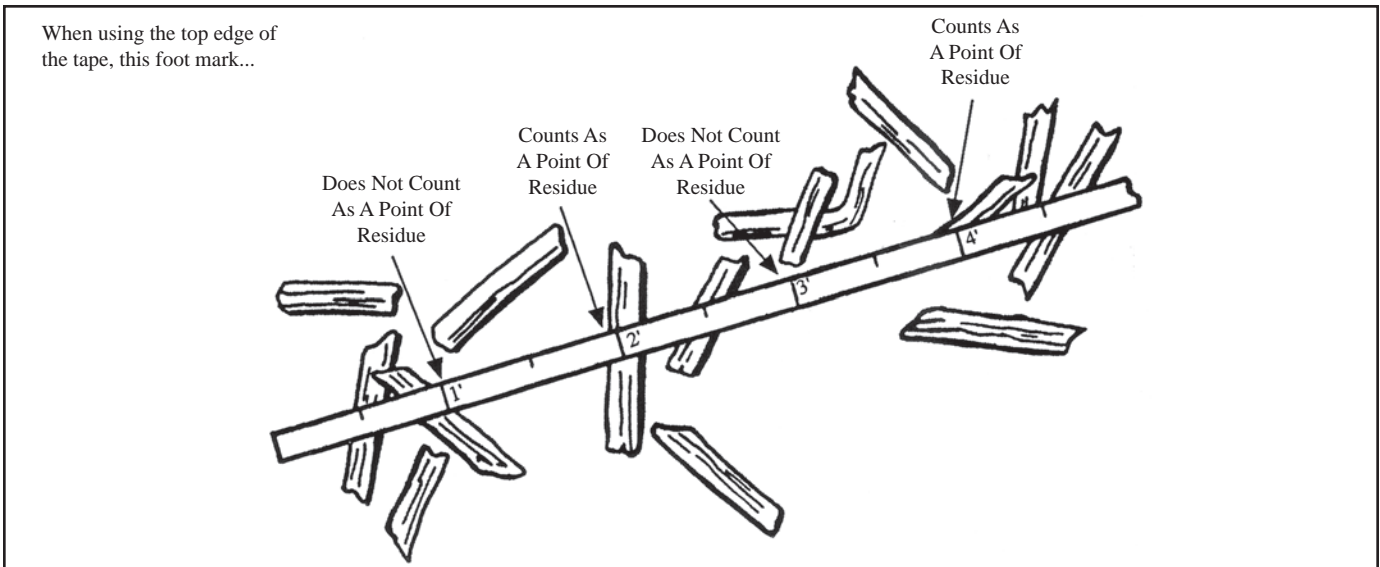

Figure 2. While consistently looking at only one side of the measuring device, count only those marks that have a piece of residue beneath them.
- To get an accurate measurement, count only those marks that have residue *exactly under them* (Figure 2).